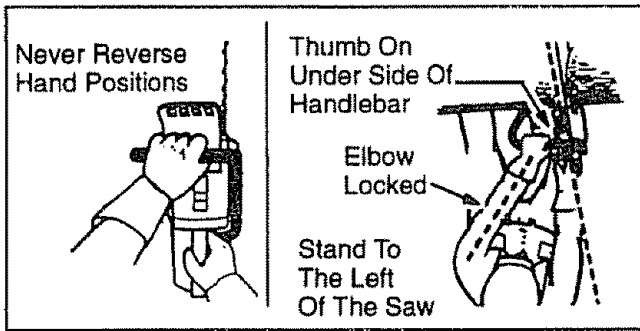

Figure 4
- Keep a good, firm grip on the saw with both hands when the engine is running and don't let go. Figure 4. A firm grip can neutralize kickback and help you maintain control of the saw. Keep the fingers of your left hand encircling and your left thumb under the front handlebar. Keep your right hand completely around the rear handle whether you are right handed or left handed. Keep your left arm straight with the elbow locked.
- Position your left hand on the front handlebar so it is in a straight line with your right hand on the rear handle when making bucking cuts. Figure 4. Never reverse right and left hand positions for any type of cutting.
- Stand slightly to the left side of the saw to keep your body from being in a direct line with the cutting chain. Figure 4